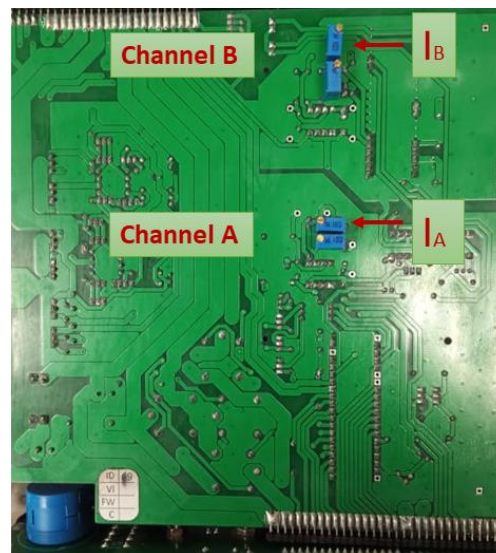

Figure 12: The positions of variable resistors for current calibration of both channels
6. To adjust the current value, rotate the variable resistor of channel A, located at PCB, using a screwdriver, as shown in Figure 12.